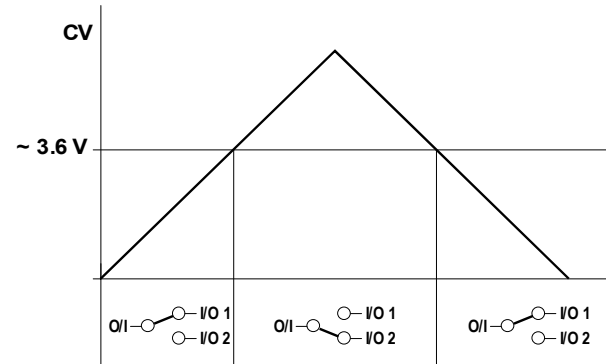

Fig. 1: The A-150's switching behaviour
① CV
Socket ① is the input for the **digital control voltage**, whose level determines the switch state (see Fig. 1):
④ O/I
Socket ④ is the **common out / input**. Depending on the level of control voltage at input ① it's connected to socket ② or ③ (see Fig.1).